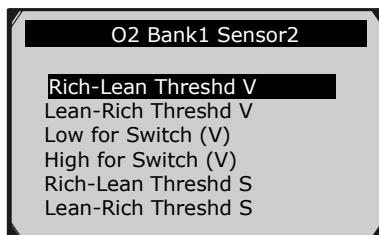

Figure 5.25
- 4) View test results of selected O2 sensor. (Figure 5.25)